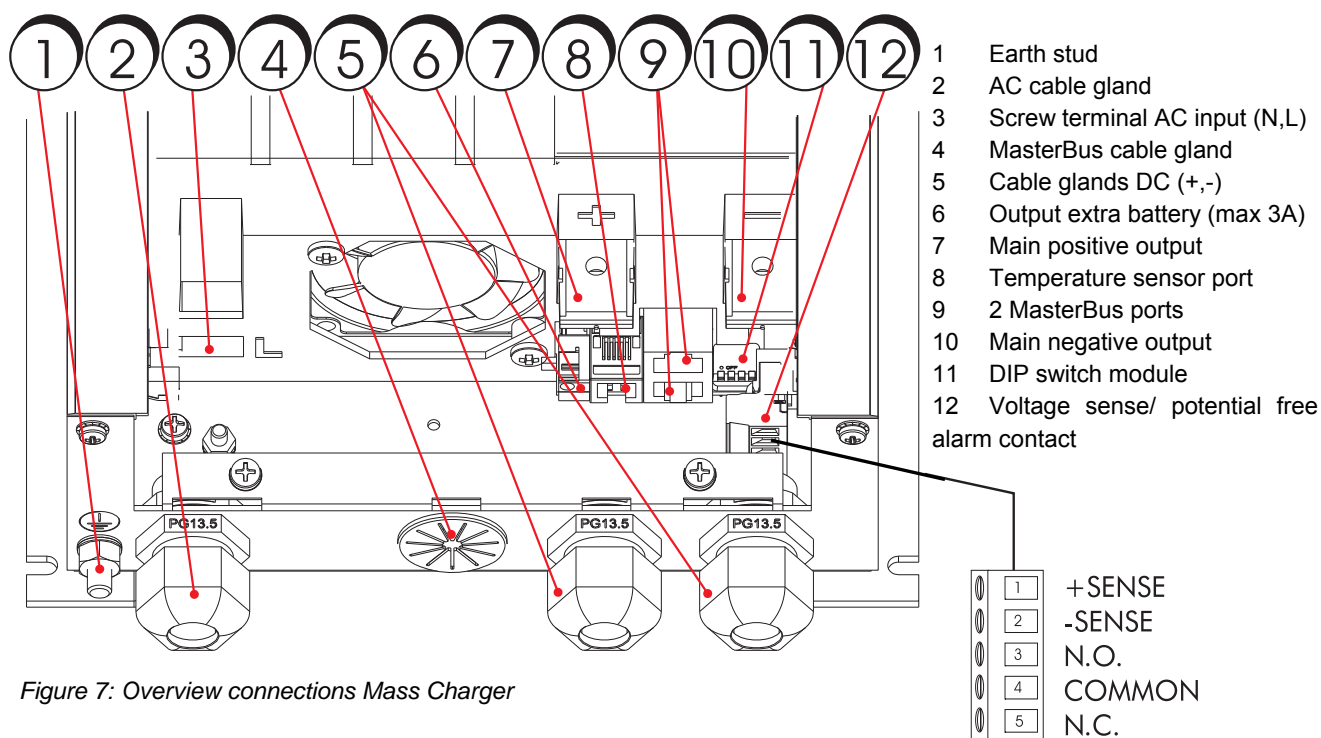

Figure 7: Overview connections Mass Charger
- 4 Compensate the voltage drop over the battery isolator by changing the setting of dip switch 4 (see fig. 7).
- Connect the plus of the second battery to the +3A terminal of the Mass Charger (see fig. 7 and 8).
The standard temperature sensor is provided with 6 m cable and a double-sided tape for easy installation. Determine the warmest place on the battery set and make it clean and grease free. Remove the piece of paper from the tape and stick the sensor on the battery. Plug the modular cable into a terminal at the right of the Mass Charger (see fig. 7). It is not necessary to shorten the cable. When you want to shorten it anyway please notice the polarity of the plug and use the old connector as an example.
To shorten the charge time substantially, the battery cable losses can be compensated by using the sense function. Use 0,75 mm2, preferably red and black wire and secure these with fuses of 2A slow blow. Connect the wires with the two upper terminals of the green connector at the right side of the cabinet (see fig. 7). Pay good attention to the polarity of the wires, red on +S and black on -S. Now connect the other side of the wires: black on the minus of the battery and red on the battery side of the Mass Charger fuse.
The battery charger is equipped with a potential free contacts alarm relay, see figure 7. The alarm function has two modes: standard (factory setting) and DC alarm mode (continuous mode).
Figure 7 shows the Mass Charger connections.
- 2 mm flat blade screw driver for the sense terminal (figure 7 point 12).